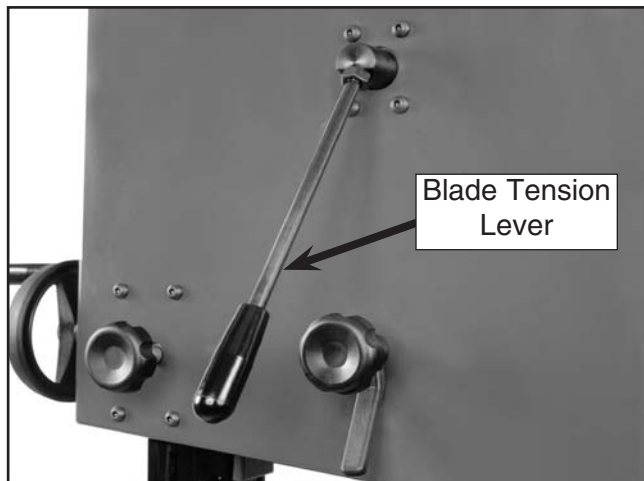
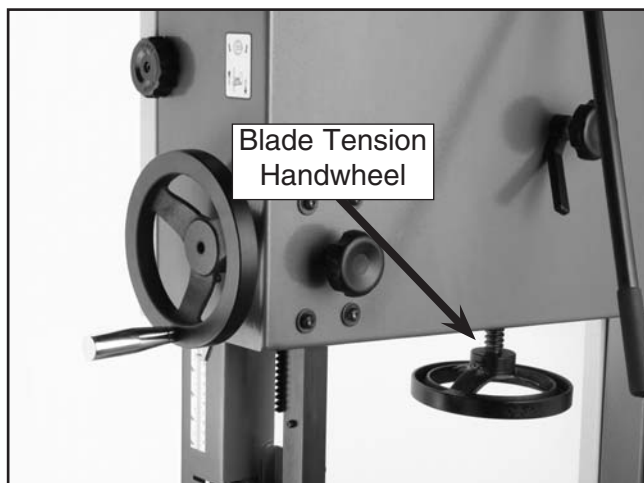

Figure 21. Blade tension lever engaged.
Figure 22. Blade tension handwheel.
2. With the blade tension lever in the down (engaged) position (**Figure 21**), adjust the blade tension handwheel (**Figure 22**) until the blade tension scale matches the size of blade that is installed on the bandsaw.